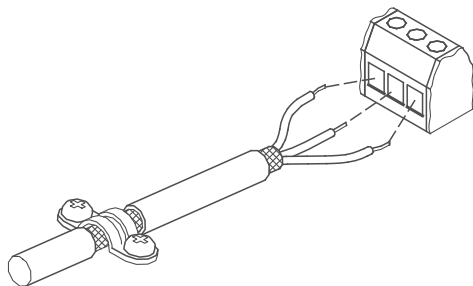

Fig. 23 Stripped cable with screen and wire connections
- Connect the screens of the cables to frame at both ends with good connection. The screens must be as close as possible to the terminals. See fig. 23.